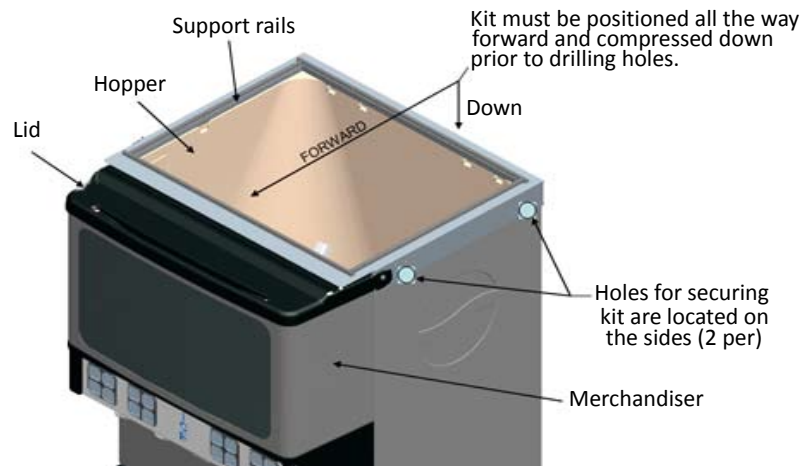

Figure 3.
4. Using the four holes in the adapter cover as templates, drill 9/64" (.140" Dia.) holes in the sides of the dispenser (2 holes per side). **USE EXTREME CAUTION NOT TO DRILL INTO ANY OTHER COMPONENTS.** Maximum drill depth from the face of the kit should not exceed 3/8" (just enough to go through the material being drilled). Remember, the kit should be positioned all the way forward and compressed down before drilling the holes. Otherwise, undesirable gaps may result (lid to merchandiser) and the internal latch feature for the lid may not function properly. After holes are drilled, secure the kit to the machine using the screws provided, refer to Figure 3.
- The next step is to secure the icemaker to the kit. Use the brackets (supplied) as templates to drill four 9/64" (.140" Dia.) holes into the adapter kit (2 per side). When drilling holes, the maximum distance from the back of the kit is 7.50 inches, refer to Figure 3. Failure to comply will result in damage to the sliding arm mechanisms internal to the kit. Drill four holes of the same diameter into the icemaker (2 per side). Ensure the location of the brackets will not damage the kit or the icemaker prior to drilling any holes. **USE EXTREME CAUTION NOT TO DRILL INTO ANY OTHER COMPONENTS.** Drill depths should not go further than the thickness of the material being drilled (just enough to go through). Secure the two brackets using the screws provided.